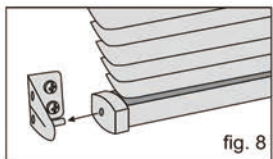

fig. 8
6. Use short Screw to fix the Hold Down Brackets. See fig. 8.